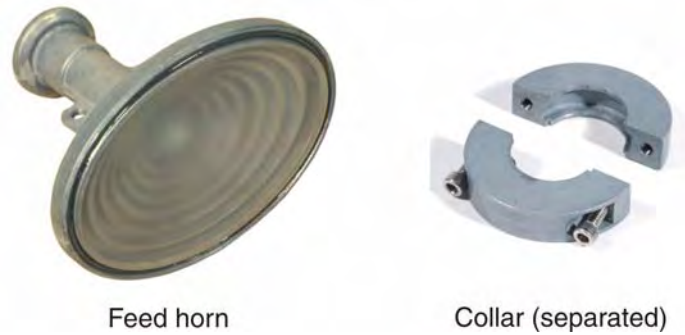

Figure 8: Feed horn and collar
**Feed horn** The elliptical *feed horn*, shown in Figure 8, attaches to the polarizer on the radio assembly. The feed horn gathers the reflected signal from the reflector and focuses it toward the LNB.